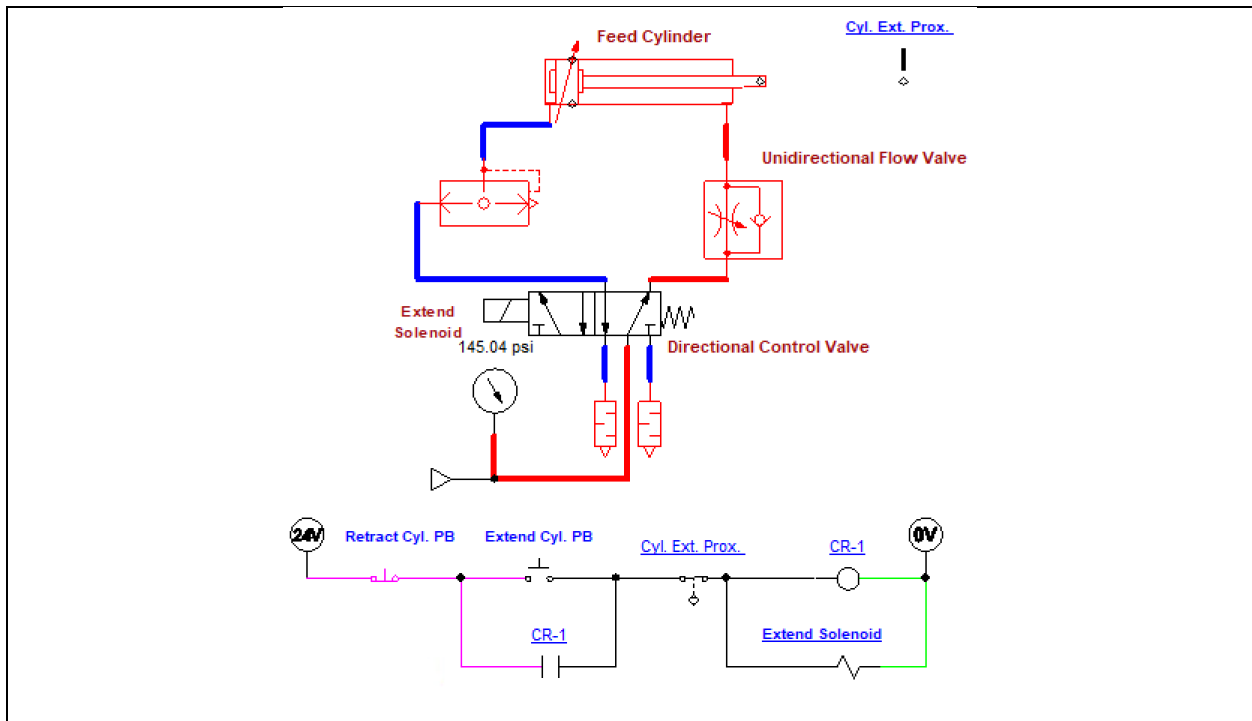

Figure 1. The pneumatic and electrical circuit in circuit 1 of this lab.
1. The circuit shown in Figure 1 will be the circuit that will be run/simulated in Automation Studio.
- How will the cylinder be effected during the run cycle of the circuit in Figure 1, if the internal diameter of the flow valve is increased?
2. What could be the problem if when the cylinder rod is extending in Figure 1, then half way through the extension it retracts?